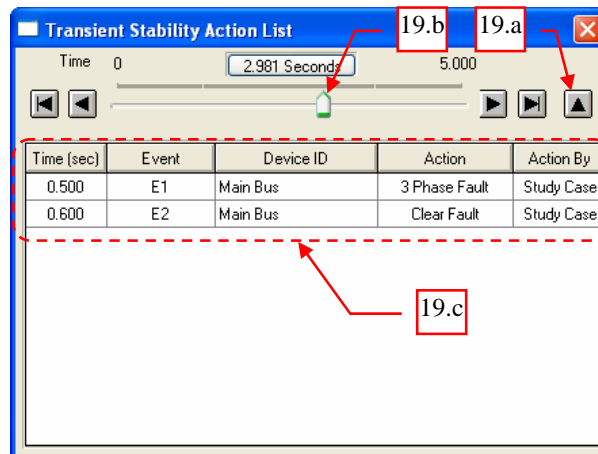

Fig. 12
19. When the calculation is completed, a “Transient Stability Time-Slider” dialog box will be displayed. This slider allows for animation of the result of simulation at different points in time. See Fig. 12.